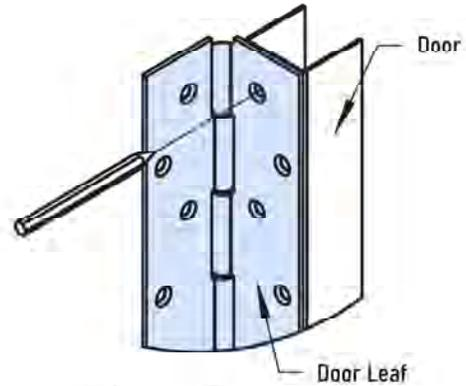

Fig. 3
- A. Attaching hinge to door (Fig.3)